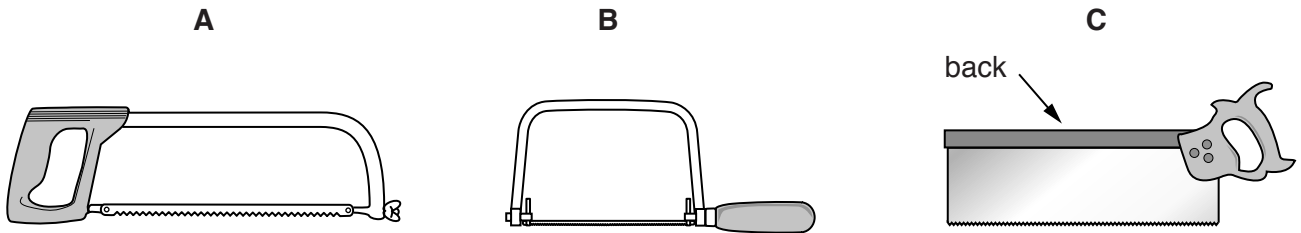

Fig. 7
11 Three different saws are shown in Fig. 7.
- (a) Name the saws shown in Fig. 7 and state a use for each. [6]